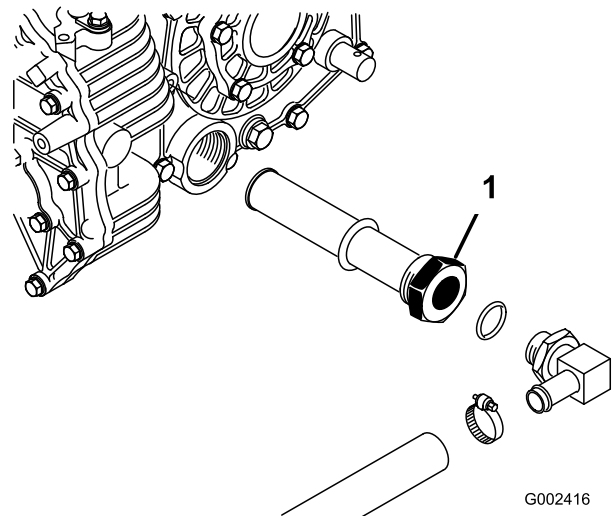

Figure 63
5. Note the orientation of the hydraulic hose and 90° fitting connected to the strainer on the side of the reservoir (Figure 63).